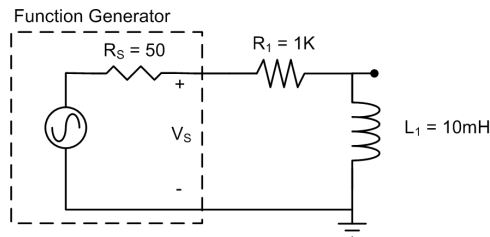

Figure 5.8: Mystery Filter Two
- Connect the circuit in figure 5.8 and measure both the input voltage, V_{IN} , and the output voltage, V_{OUT} , on the oscilloscope. For V_{IN} use an 8VPP sine wave at a starting frequency of 10 Hz.
6. Once you have found the corner frequency of the circuit in Figure 5.8, plot the magnitude of V_{OUT} and phase response of the range of frequencies from 10Hz to 300kHz. Fill in table 5.2 with your calculations then plot your results on a separate sheet of paper. Use logarithmic scale for frequency axis.